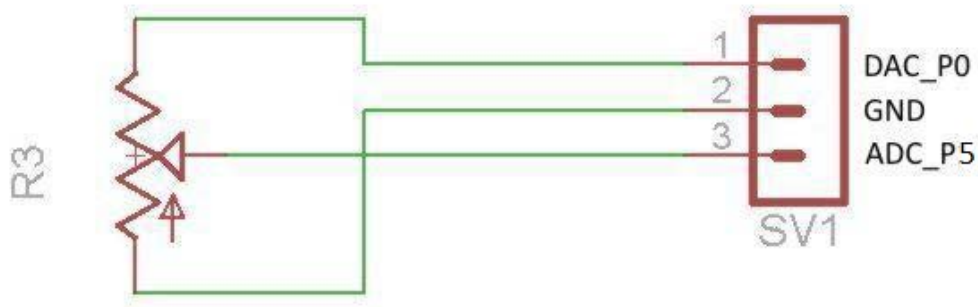
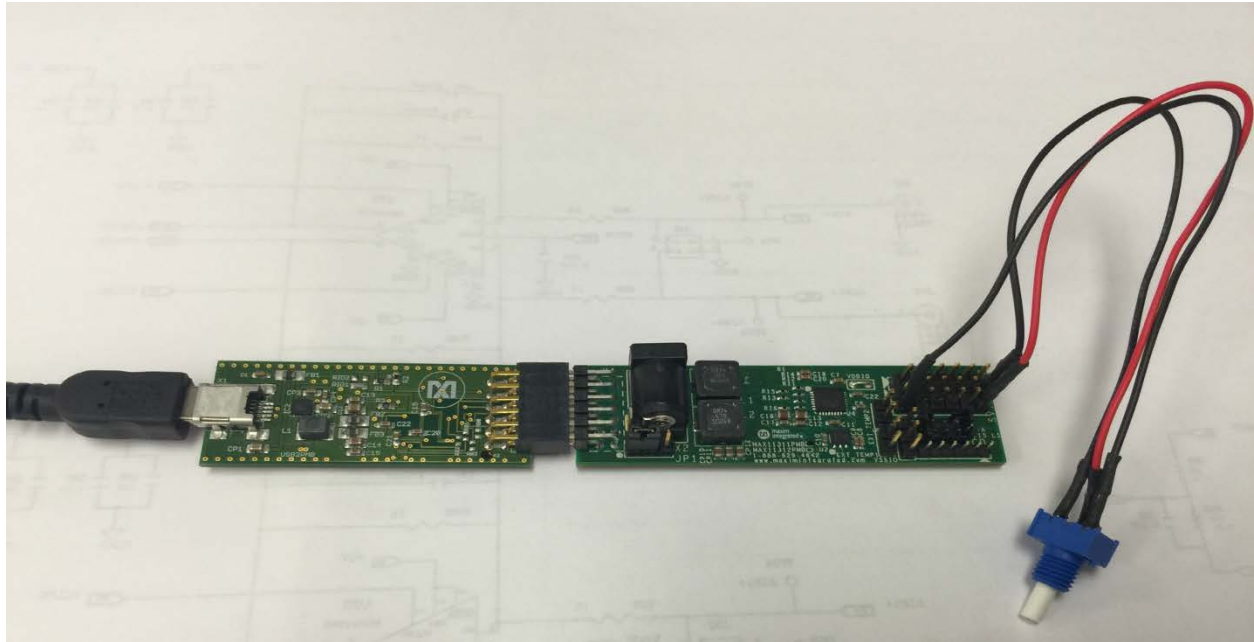

Figure 28. Potentiometer schematic connection to MAX11311PMB1# ports.
Figure 29. Potentiometer setup for demonstrating the behavior of a DAC with ADC monitoring.
See **Figure 28** for the potentiometer schematic connection. Make sure that (1) is connected to the DAC output of the MAX11311 Port 0, (2) is connected to GND (middle row), and (3) is connected to the ADC MAX11311 Port 5. See Figure 29 for the setup.